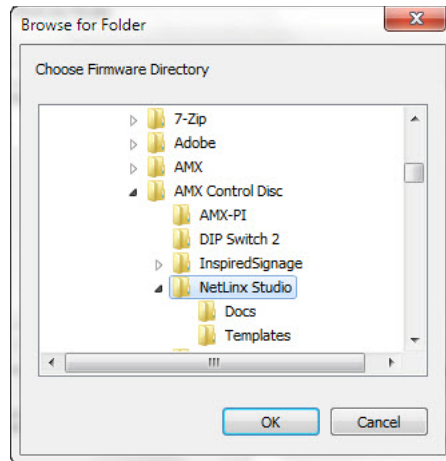

FIG. 30 Browse for Folder window
4. Select the appropriate Kit file from within the *Browse for Folder* window (FIG. 30).